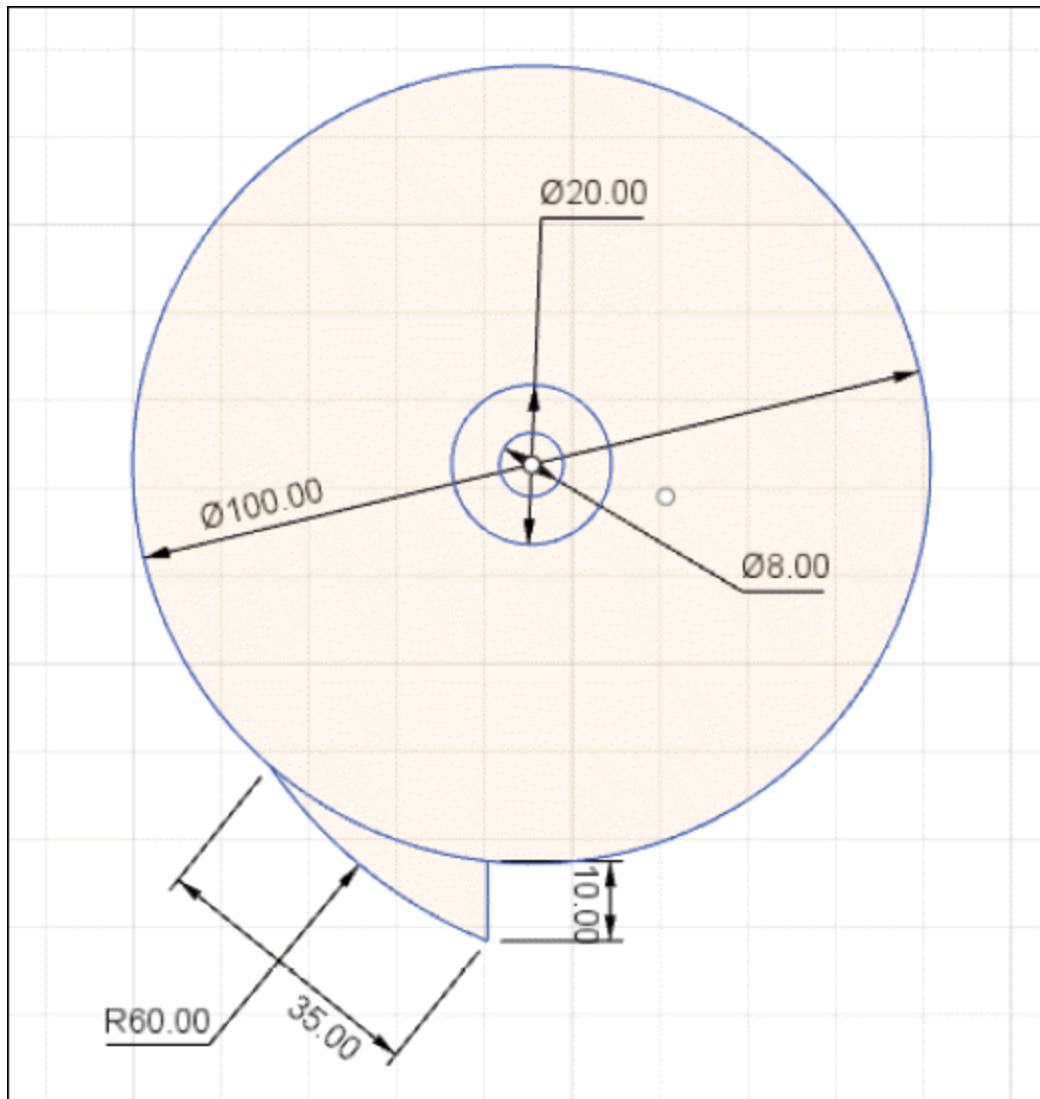

Figure-28. Creating line and arc
- Select **3-Point Arc** tool from **Arc** cascading menu and create an arc of **60** radius and **35** length as shown in Figure-28.